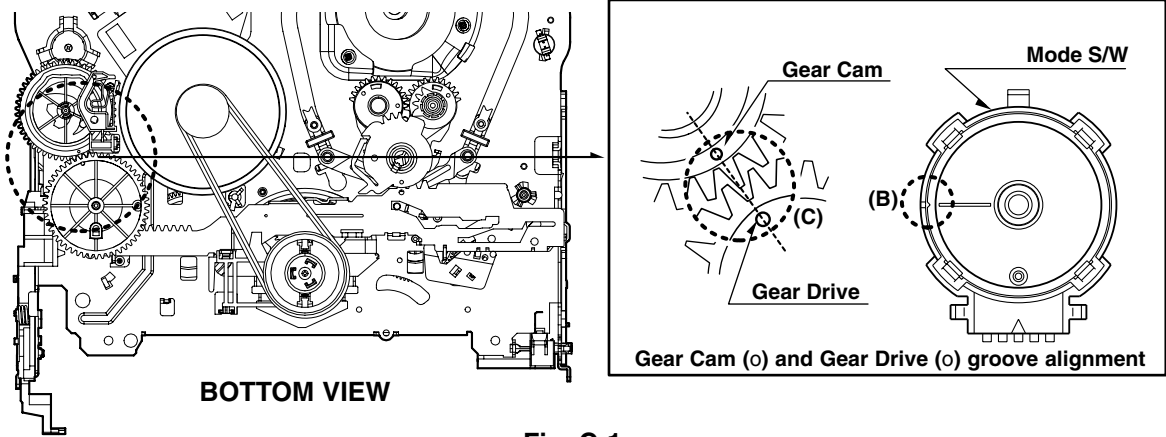
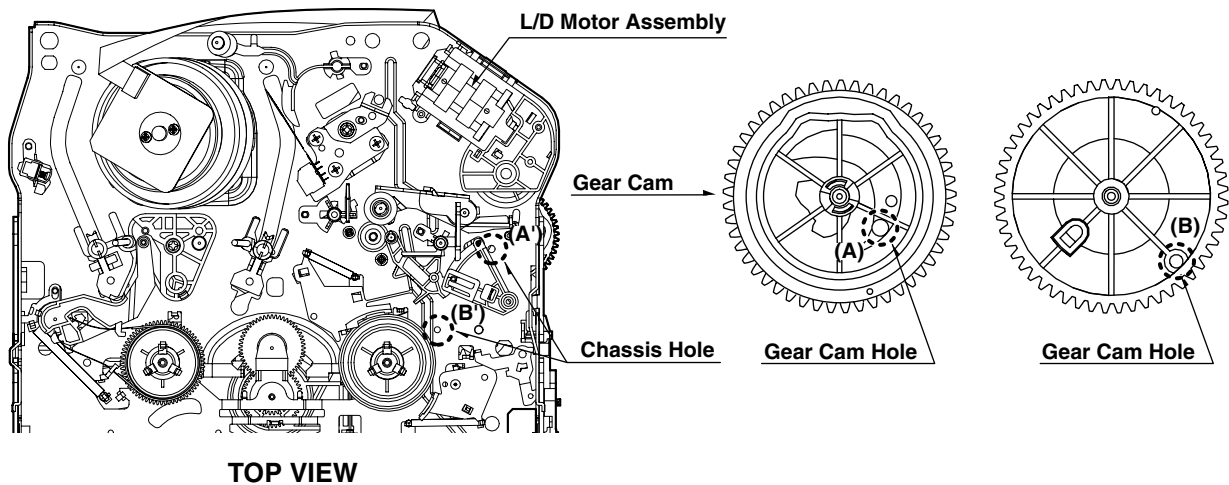

Fig. C-1
Fig. C-2
1) Turn the Power S/W on and eject the Cassette by pressing the Eject Button. 2) Remove the Top Cover and Plate Assembly Top, visually check if the Gear Cam Hole is aligned with the Chassis Hole as below Fig. C-2. 3) IF not, rotate the Shaft of the Loading Motor to either Clockwise or Counterclockwise until the Alignment is as below Fig. C-2. 4) Remove the Screw which fixes the Deck Mechanism and Main Frame and confirm if the Gear Cam is aligned with the Gear Drive as below Fig. C-1(A). 5) Confirm if the Mode S/W on the Main P.C.Board is aligned as below Fig. C-1(B). 6) Remount the Deck Mechanism on the Main P.C.Board and check each operation.